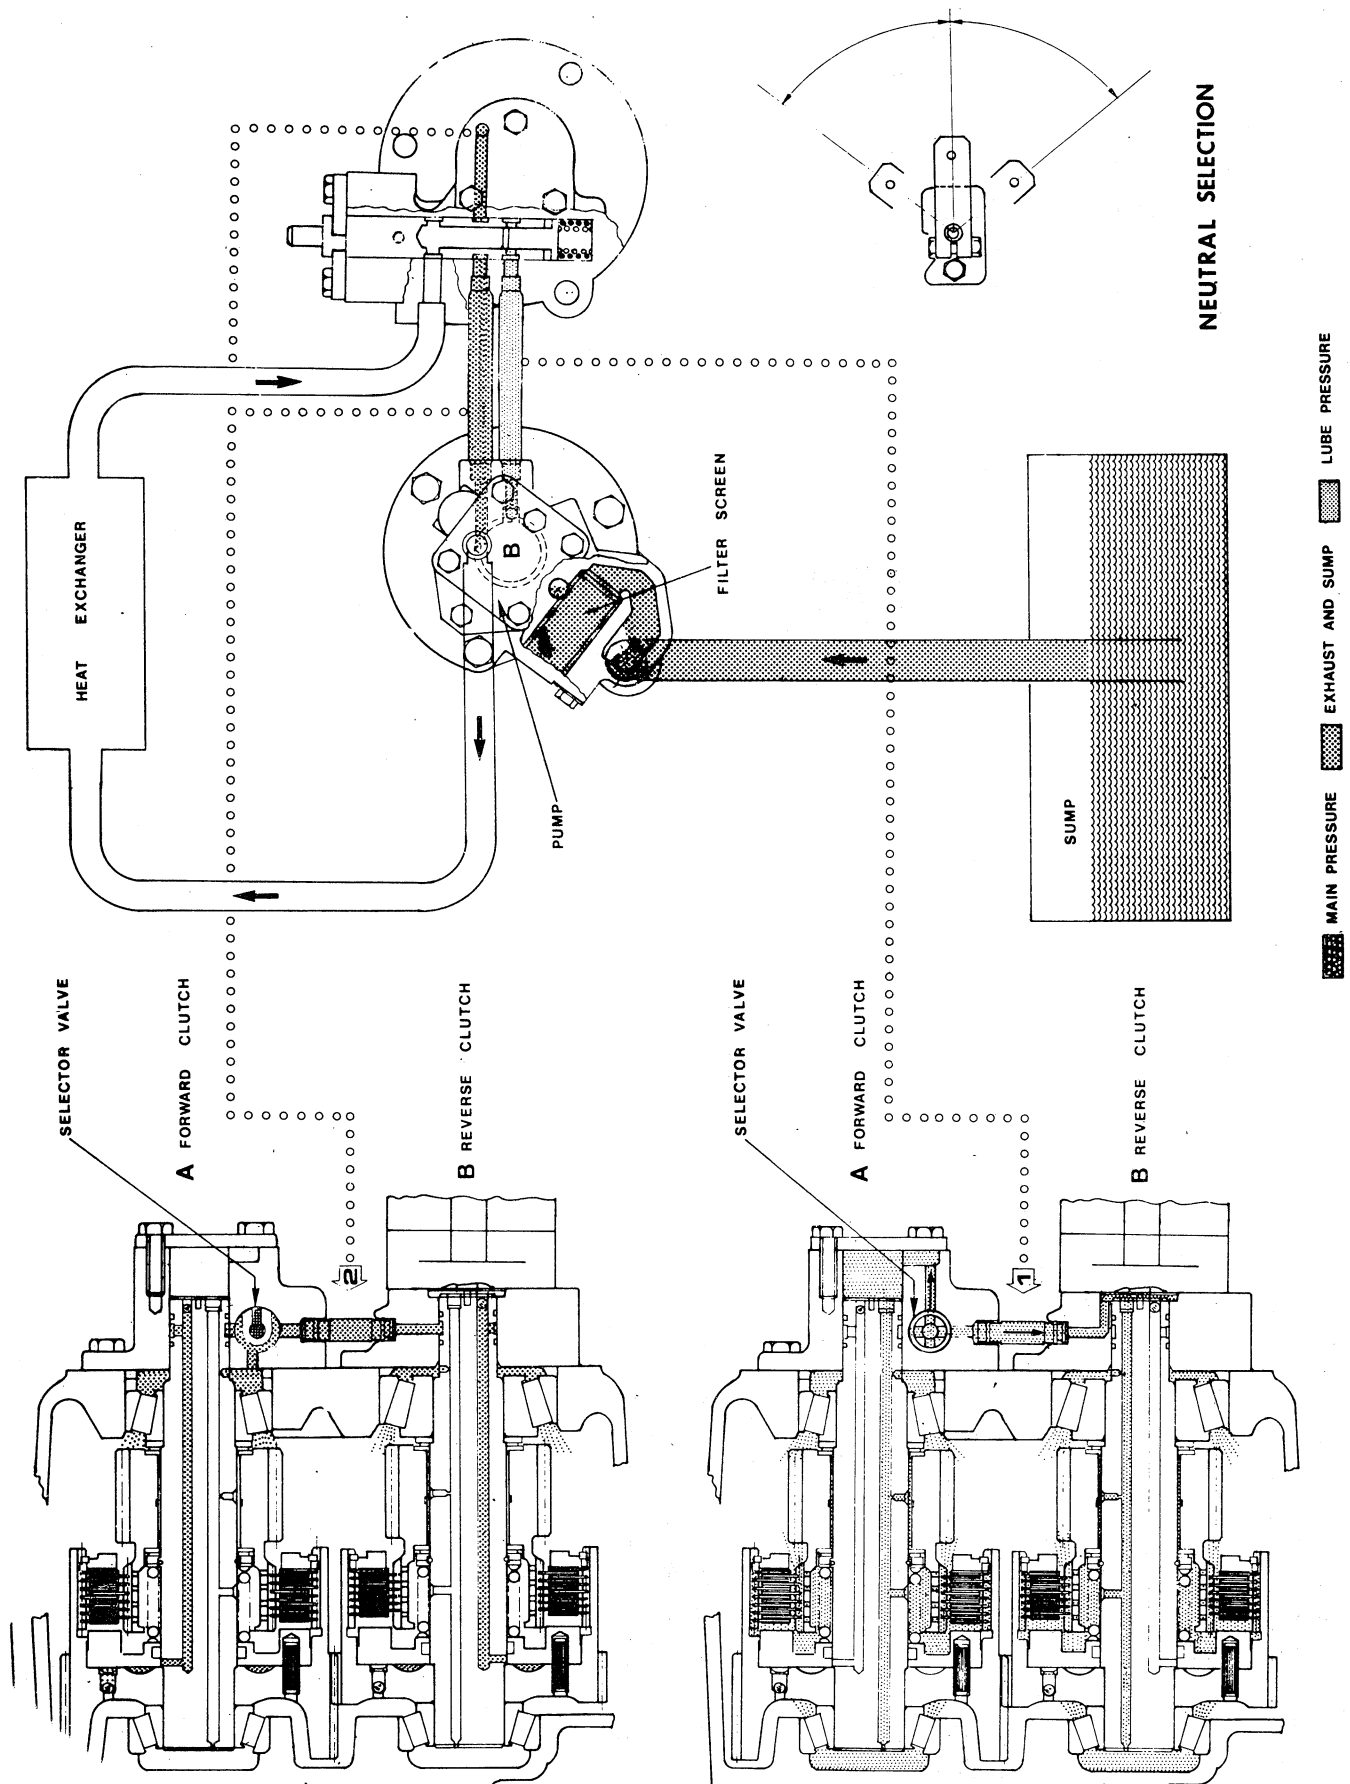

Fig. 7 . Marine Transmission oil flow - Neutral - Schematic drawing.
A. Neutral (fig. 7). Oil is pressurized by the main regulator valve in the regulator valve body to approximately 250 psi or 310 psi depending on springs used. Overage oil from the valve chamber of the regulator valve enters the lube oil passages and a connecting tube conveys lube oil to the pump mount. The lubricating oil is supplied to both clutch shafts for cooling and lubricating functions in the marine transmission. Since neither clutch is engaged, the remainder of the oil in the chamber not required for cooling and lubrication is returned to sump.